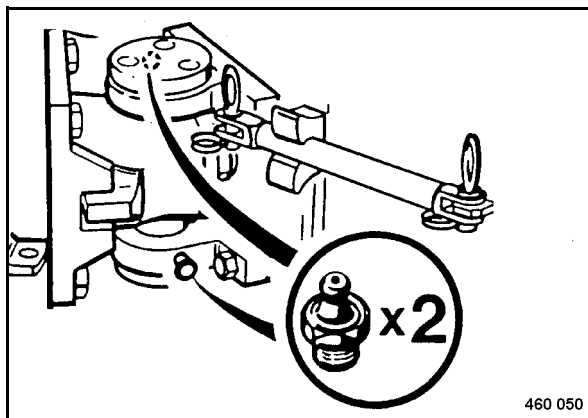

Fig. 86
- Clean the grease nipples (Fig. 86) and lubricate with approx. 5 strokes from the grease gun.